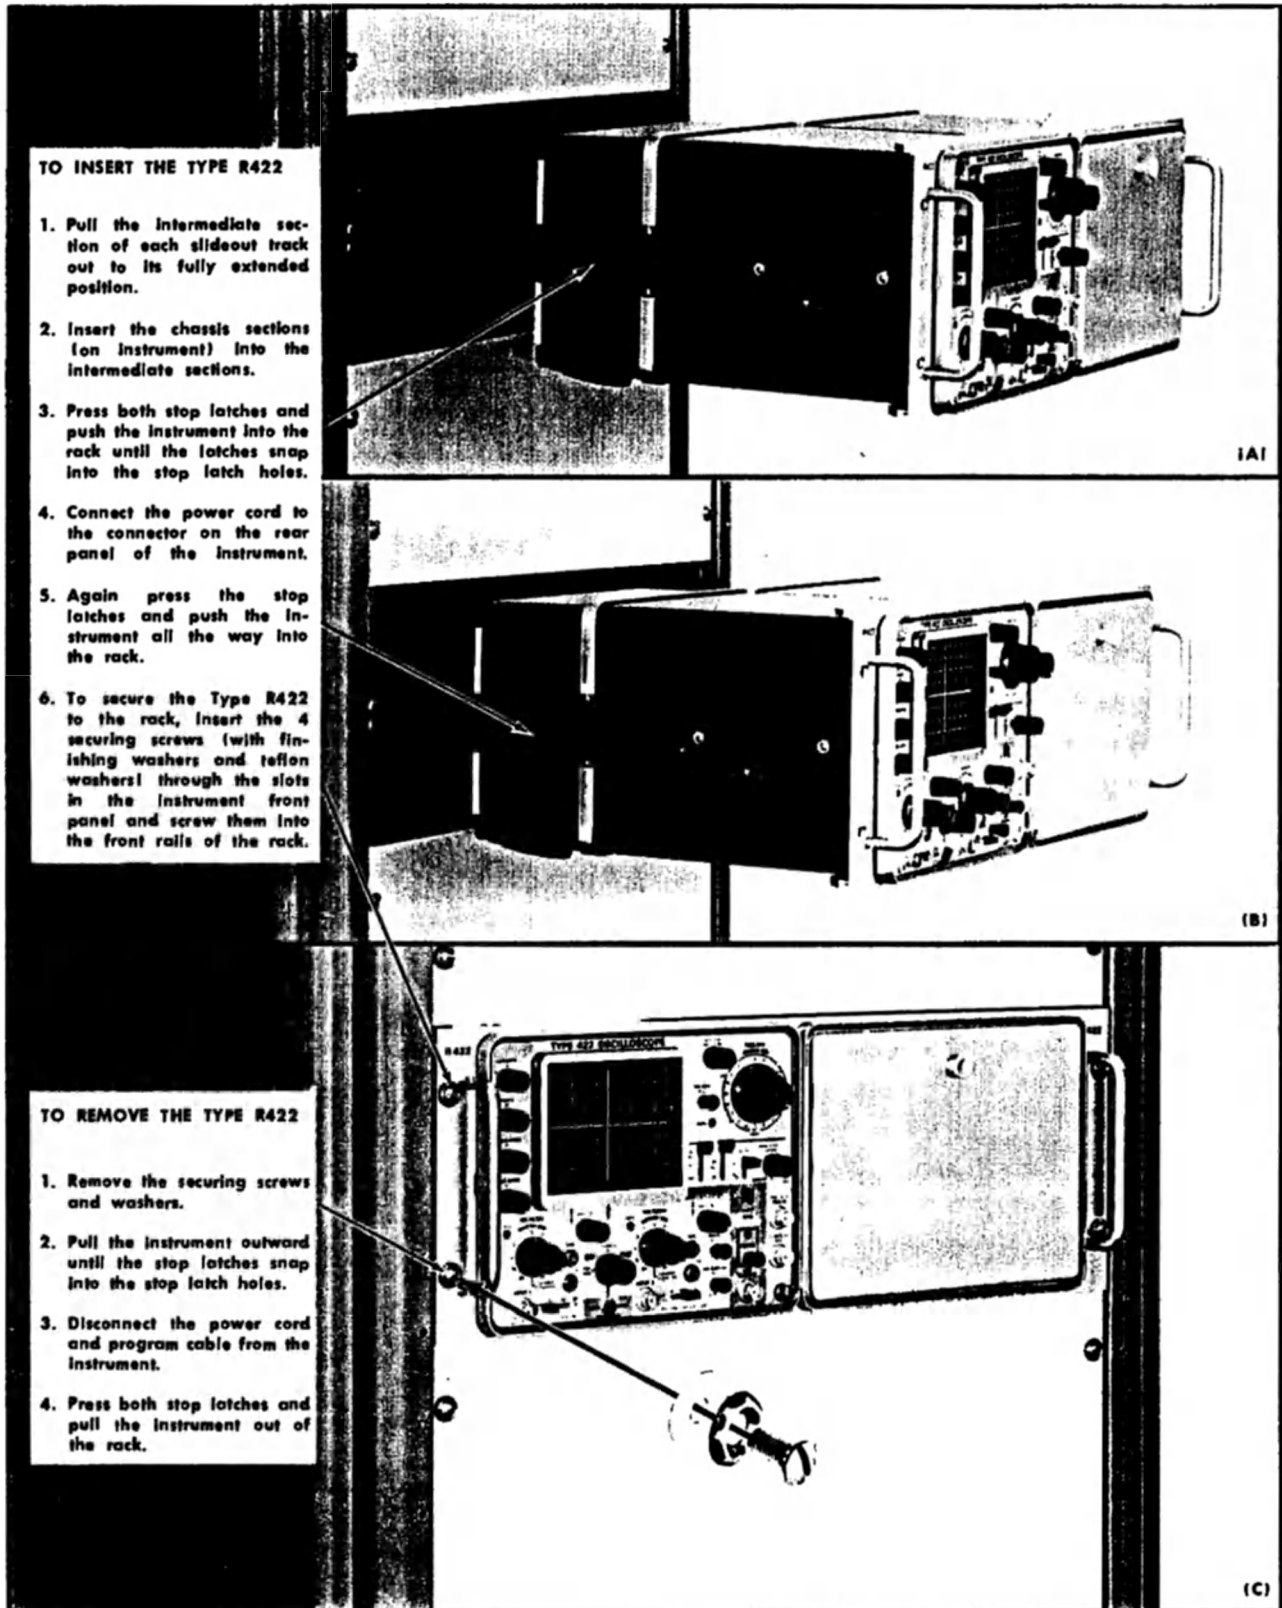

Fig. 10-9. Procedure for inserting or removing the instrument after the slide-out tracks have been installed.
5. Refer to Fig. 10-9 to insert the instrument into the rack. Do not connect the power cord or install the securing screws until all adjustments have been made.